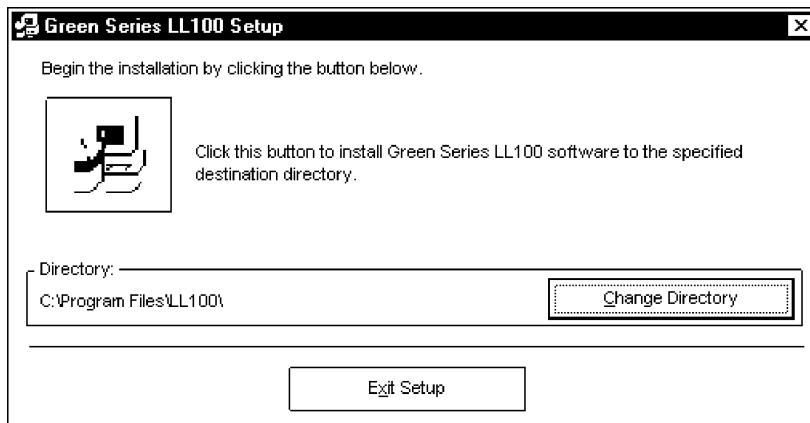

Figure 2.1.3 Dialog Box Announcing Start of Installation of LL100
- (6) To continue the setup, click **OK**. The dialog box contents change as shown in Figure 2.1.3. Or, to quit the setup, click **Exit**.